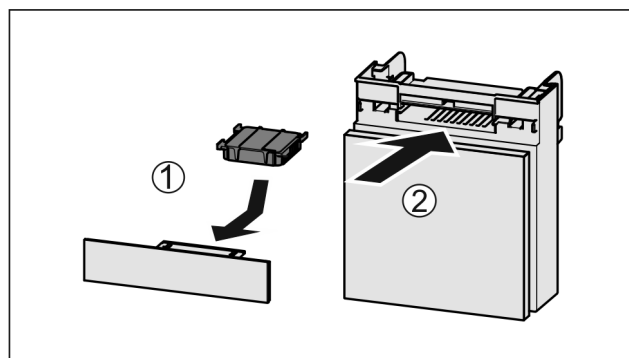

Fig. 215
- ▶ Insert the carbon filter as shown in the diagram Fig. 215 (1).
- ▶ Push the compartment in Fig. 215 (2).